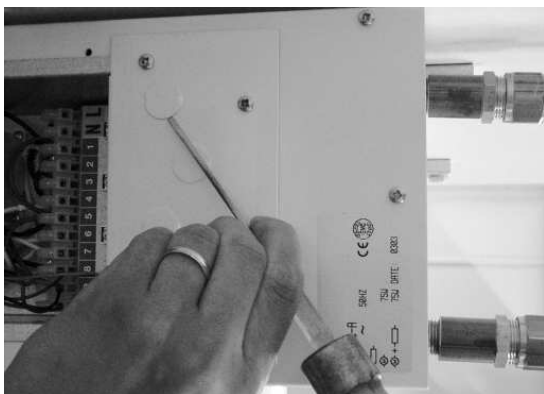
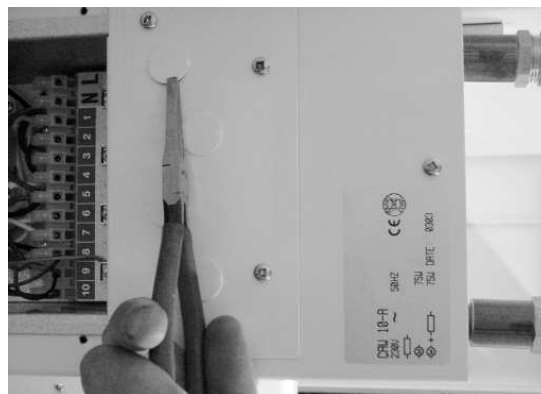

Figure 5
Figure 6
6. Use a tipped screwdriver and a hammer to remove the necessary number of cable entry washers for the installation, as shown in Figure 5. Use pliers to remove the washer as shown in Figure 6.